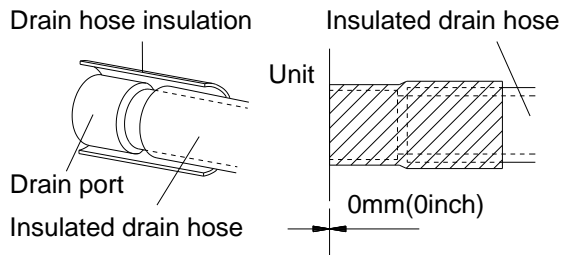

Figure 3-1-13
- (9) Be sure to insulate where the drain port and the drain hose is connected.( Figure 3-1-13 )